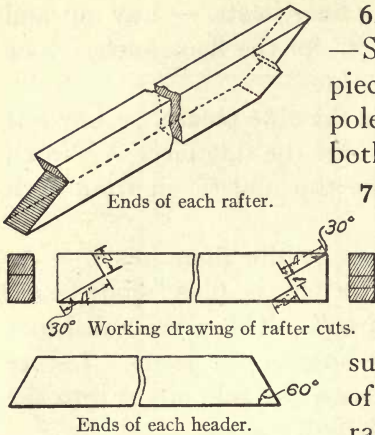

FIG. 106.—RAFTER AND HEADER.
5. **Laying out and sawing the rafters.** — The rafters slope at an angle of 60 degrees with the horizontal. The lower ends fit over the edge of the side pieces, and the ridgepole fits into the top. Figure 106 shows how the two ends of each rafter are cut. Lay out and saw.
8. Laying out and nailing headers and trimmers. — The ends of the headers are to be cut at an angle of 60 degrees, as shown in Fig. 106, so as to fit the rafters. There is one for each end of the cot. The two trimmers are placed at one end for the door.